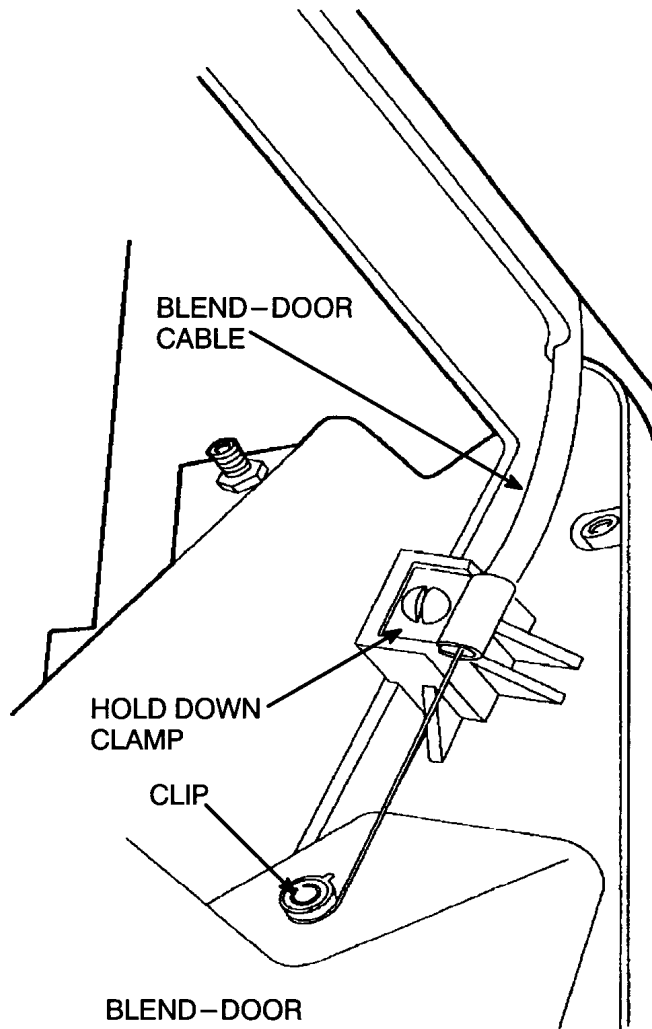

Figure 59 Connection of HOT-COLD Cable to Cab Blend-Door Assembly
9. Inside Blend-Air unit, remove hold down clamp for HOT-COLD cable. Refer to Figure 59 and Figure 1.
10. Inside Blend-Air unit, remove clip that secures HOT-COLD cable to cab Blend-Air door, and disconnect cable from door. Refer to Figure 59 and Figure 1.
6. Inside Blend-Air unit, attach end of HOT-COLD cable to cab Blend-Air door and secure with clip removed previously. Refer to Figure 59.
7. Inside Blend-Air unit, install hold down clamp for HOT-COLD cable (Figure 59).